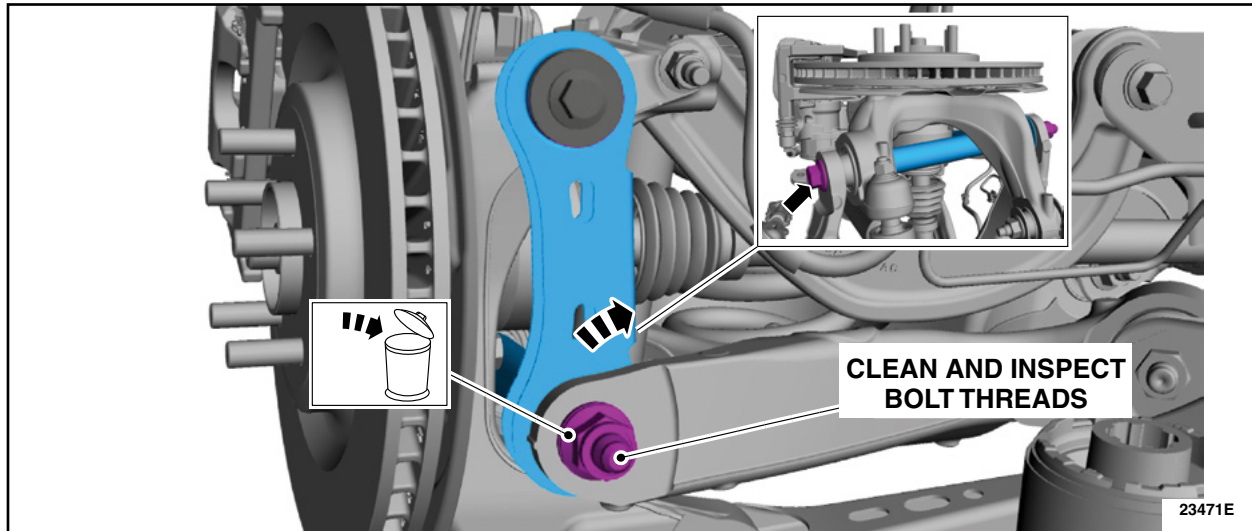

FIGURE 5
9. Remove and discard the LH rear lower arm vertical link lower nut. Then, remove, clean and inspect the LH rear lower arm vertical link lower bolt threads. If the threads are not damaged, apply LOCTITE® 263™, or equivalent (Obtain locally), and reuse the bolt and order a *new* nut. If the threads are damaged order a *new* nut and bolt. See Figure 5.